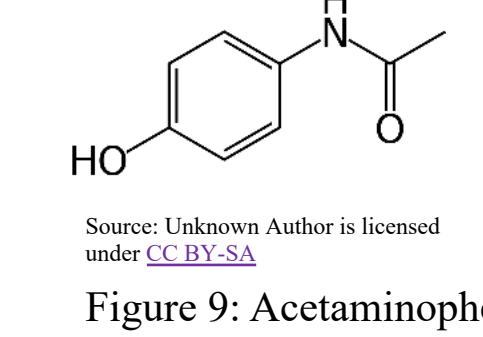

Figure 9: Acetaminophen
- Synthesis of the analytes acetaminophen (Figure 9) and phenacetin (Figure 10)